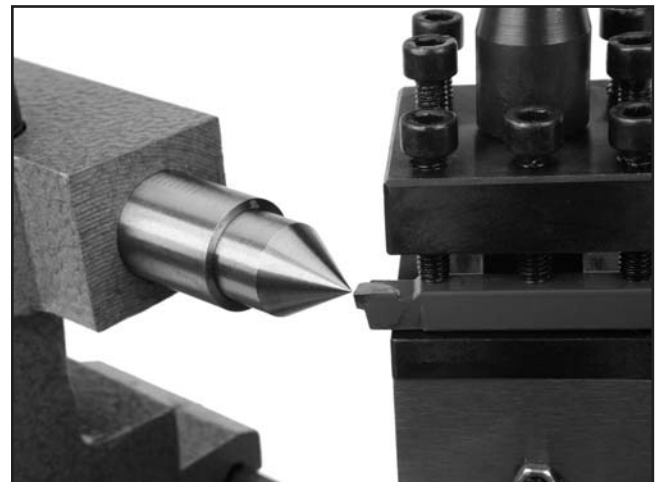

Figure 18. Proper tool post set up.
2. Secure the tool with a minimum of two cap screws with as little overhang as possible. This will help maintain rigidity and provide better results (see **Figure 18**).